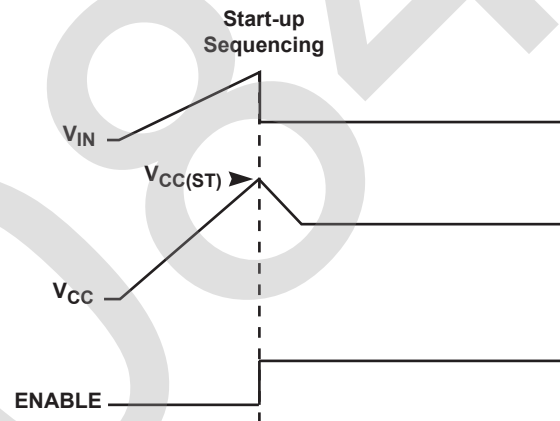

Figure 9.7 : Start-up Sequencing Diagram
Prior to start-up the  $V_{IN}$  pin charges up the  $V_{CC}$  capacitor through a diode between  $V_{IN}$  and  $V_{CC}$ . When  $V_{CC}$  is fully charged to a voltage higher than the start-up threshold  $V_{CC(ST)}$ , the ENABLE signal becomes active and enables the control logic, shown by Figure 9.7. When the control logic is enabled, the controller enters into normal operation mode. During the first 3 half AC cycles, OUTPUT(TR) keeps high. After the dimmer type and AC line period are measured, the